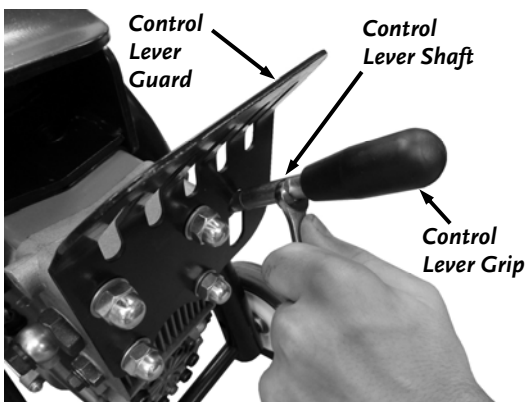

Figure 2
1. Place the Control Lever Shaft through the Guard and Screw the threaded end into the Rotating Mount (**Figure 2**). Tighten with a 10mm Wrench using the flats of the Shaft.